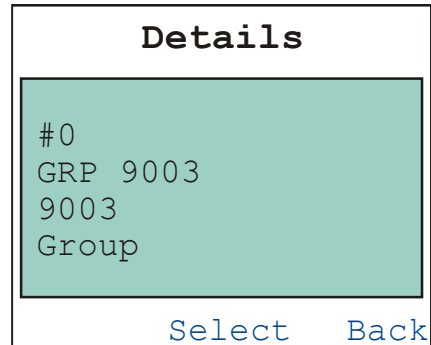

Figure 17. Individual contact details.
Use the ▼ and ▲ keys to scroll through the available contacts. Pressing the 'Select' key will display the details for the selected contact (see **Figure 17** overleaf).
- 2 On the Send screen, use the ▲ and ▼ keys to select the 'Contact' option. Press the 'Select' key. An individual Contact Details screen from the Contact List will be displayed (see **Figure 17**).